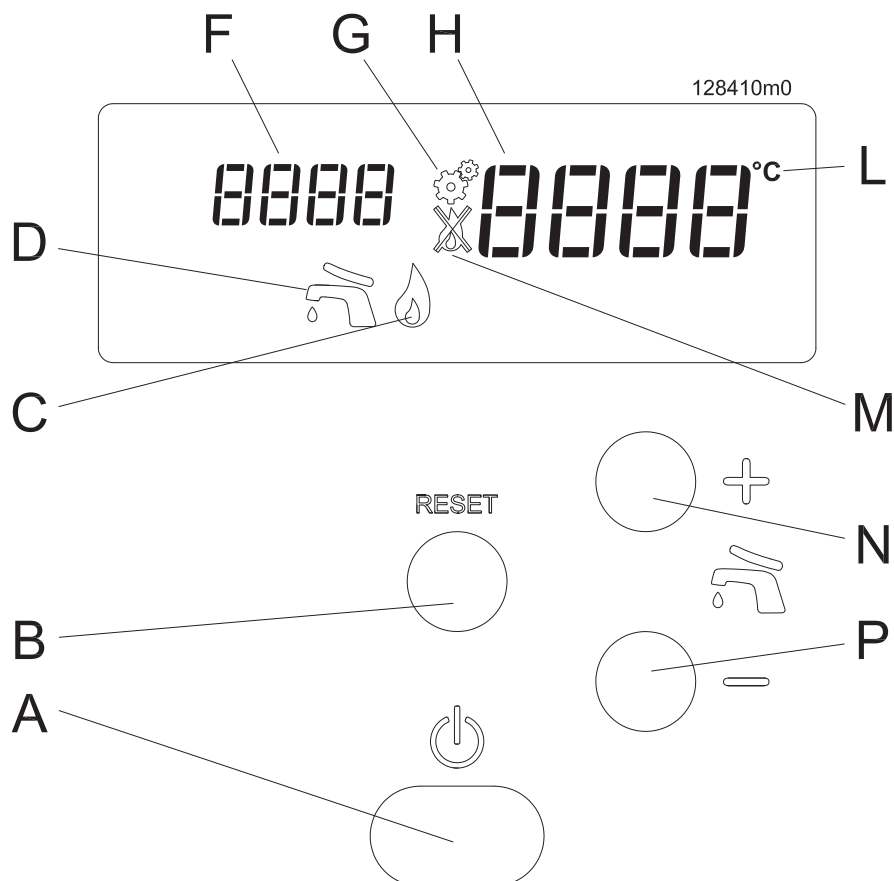

Figure 7-1 - Control panel
1. turn the power switch (item "A" in Figure 7-1) to on;
Key for figure 7-1
Entry into the "User menu" is highlighted by the visual display "F", in figure 7-1, which indicates parameters that can assume values from **100 1** to **1999**. To enter the "User menu":
operating on the  **+** and  **-** keys. On pressing one of the two keys, the visual display "H" in figure 7-1 will start to flash and show the temperature that is being set. The range of adjustment for the temperature of the domestic hot water goes from 40°C to 60°C. For higher output temperatures, contact your technician to change the maximum output temperature factory setting, see section 11.
- a.- press the RESET key to access the parameter (the visual display “H” in figure 7-1 will start to flash);